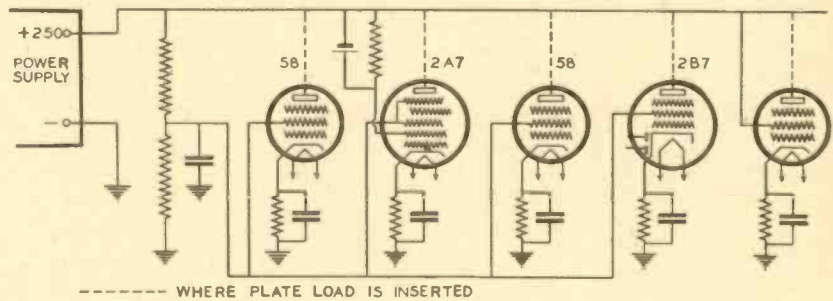
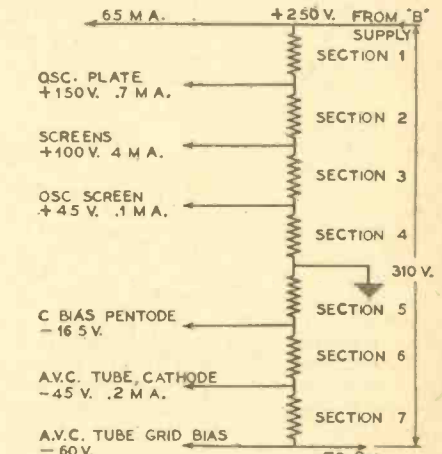
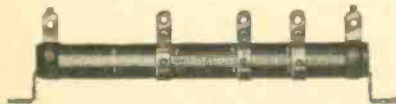

FIG. 1A
FIG. 2
FIG. 3
The tube manual will show that all tubes require the same screen voltage (100 volts) and so it would be possible to supply these screens from a voltage divider with a single tap as shown in Fig. 1A. This divider can also consist of two separate resistors of the right value. Lately, many of the small sets have no longer a vitreous enamelled resistor but include a divider made up from two or more carbon resistors. As long as the current to be supplied is not too heavy this method can be used to advantage.
several high gain stages so that it is very important to guard against any source of intercoupling between stages. Fig. 2 represents a voltage divider for use in an average receiver. Right here it is necessary to point out a common error. Supposing the power supply (after passing through the choke and perhaps the
The value of I here should be the highest current any section is required to carry. If the divider is to consist of several resistors the wattage for each section should be calculated separately and the actual current in that section should be used for the calculation. This sounds complicated but it isn't. As an example the voltage divider shown in Fig. 2 will be discussed.
Step 2 requires the determination of the bleeder current. The total of all currents drawn by tubes, as shown in Fig. 2, is 70 MA. Assuming that a transformer is used
The calculation of the correct resistance values and the power rating of voltage dividers involves nothing but the use of Ohm's Law and Kirchoff's Law ($\sum i = 0$). When a voltage divider as in Fig. 1A and Fig. 2 is to be used one can arrive at the proper values by experimentation or by calculation. For an experimenter or a designer of just one set or for the replacement of a divider which is no longer made, it is perhaps easiest to employ a so-called "adjustable voltage divider". In its most up-to-date form, this unit consists of a vitreous enamelled resistor having the enamel removed along a line running the entire length of the resistor and about a quarter inch wide so that sliding straps can make contact with the bare wire. This type is available in different lengths and with several adjustable sliders as shown in Fig. 3. The sliders can be adjusted until the voltages and currents are correct as determined by suitable measuring instruments. There remains to be determined the correct size to use.
A simple push-pull version of the "linear" oscillator is shown in figure 2. Here we have four rods and two tubes, with RF chokes in all filament leads. The tubes may again be triodes with the proper filament and plate voltages. Of course different values of grid leaks will be required; the values indicated are approximate and will serve as a starter.